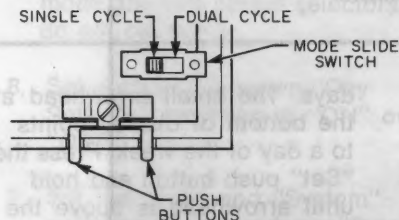

Fig. 6 — Interior view of back side of front housing. Note "Mode" slide selector.
Mode Switch (See Fig. 6.)
2. Set the "Mode" switch to the desired mode of one or two setback/setup periods each day. (See Fig. 6.)